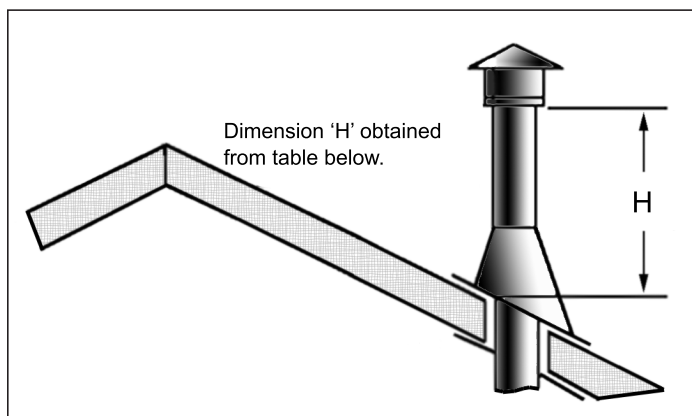

Figure 34: Height of Vertical Termination; Reference Table 6.
- STEP 8.** Continue to add pipe sections until the height of the vent cap meets the minimum code requirements. Refer to Figure 34 and Table 6. Note that for steep roof pitches, the vent height must be increased. In high wind conditions, nearby trees, adjoining roof lines, steep pitched roofs, and other similar factors can result in poor draft, or down drafting. In these cases, increasing the vent height may solve the problem.
Table 6: Minimum 'H' for Figure 34.